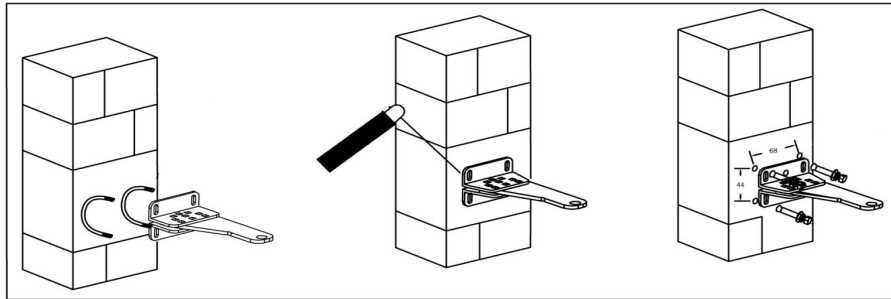

Figure 5
1. Construction Drill and Bolts, Figure 5 right:
2. Construction Drill and Weld, Figure 5 middle:
3. Precast U Bolts, Figure 5 left: